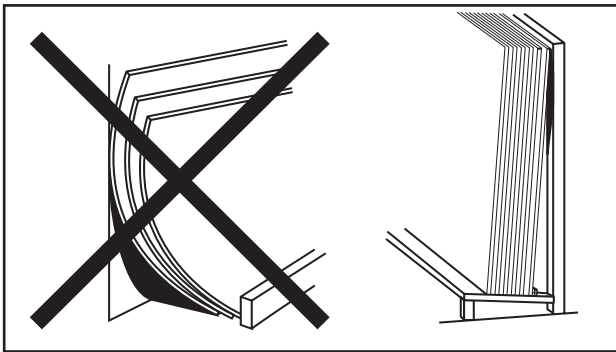

figure 1
If this condition is met, the wall structure will meet (see section 5.0 fig. 1) the performance criteria with regard to the containment of the spread of fire as referred to in table 2.103 of the Dutch Building Decree.
- Store horizontally; if horizontal storage is not possible, the boards can be positioned at an angle of  $60^\circ$  or  $70^\circ$  where the total surface is supported. (Figures 1&2).